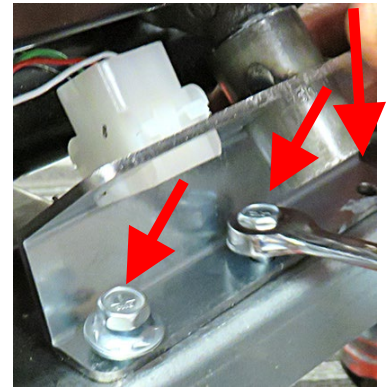

Figure 43
- 42. Align the dispose outlet assembly to the pre-drilled holes and attach using ¼"-20 self tapping bolts (see Figure 43).